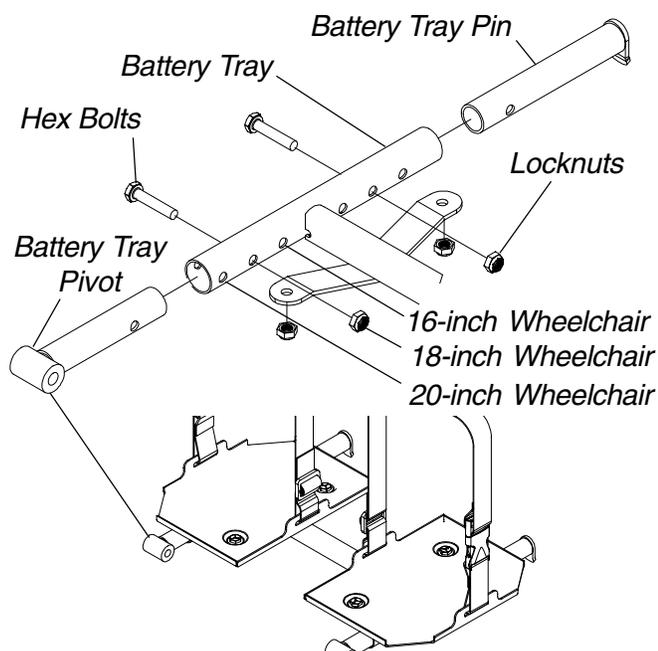

FIGURE 11 - BATTERY TRAY - CHANGING WIDTH OF BATTERY TRAY
**Changing Width of Battery Tray (FIGURE 11)**
2. Remove the hex bolt and locknut that secure one (1) of the battery tray pins to the battery tray.
3. Refer to FIGURE 11 to determine mounting hole in the battery tray that corresponds to width of the wheelchair.